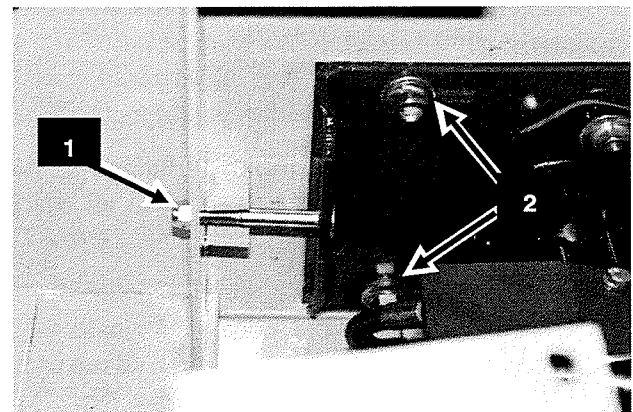

Fig. 28: 3725/3825 Primary Drive Chain Adjustment
DRIVE CHAINS (Fig. 28)
3725/3825 Drive Chains(Figs. 28 & 29)
3. Adjust the Primary Drive Chain first. Loosen, but do not remove the Takeup Plate mounting hardware. From inside the Operators Compartment, tighten the Primary Drive Chain Adjustment Locknut (see Fig. 28) until approximately 1/4" (6mm) of chain deflection is obtained midway between the Sprockets. After the proper Chain tension is obtained, retighten the Takeup Plate hardware.